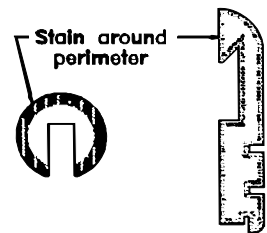

Fig 18
- Step 12:** Color the perimeter of all unfinished ends of the wooden handrail using a stain pen or touch-up stain, see *fig. 18*